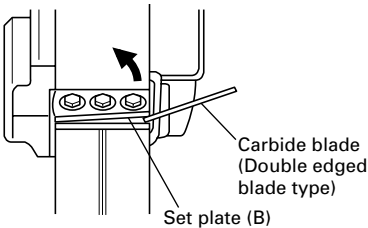

Fig. 6
- (1) As shown in **Fig. 6**, lift set plate (B) and insert the new carbide blade between cutter block and set plate (B).